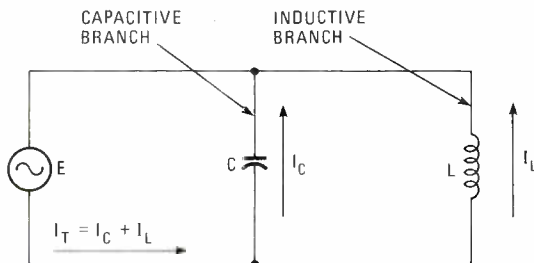

Fig. 9—In a parallel LC circuit the total current (I_T) is the sum of the capacitive and inductive currents.
23. (2000) So far we have only discussed series resonant circuits. A parallel resonant circuit is shown in Fig. 9. A capacitor and an inductor are connected across an AC voltage